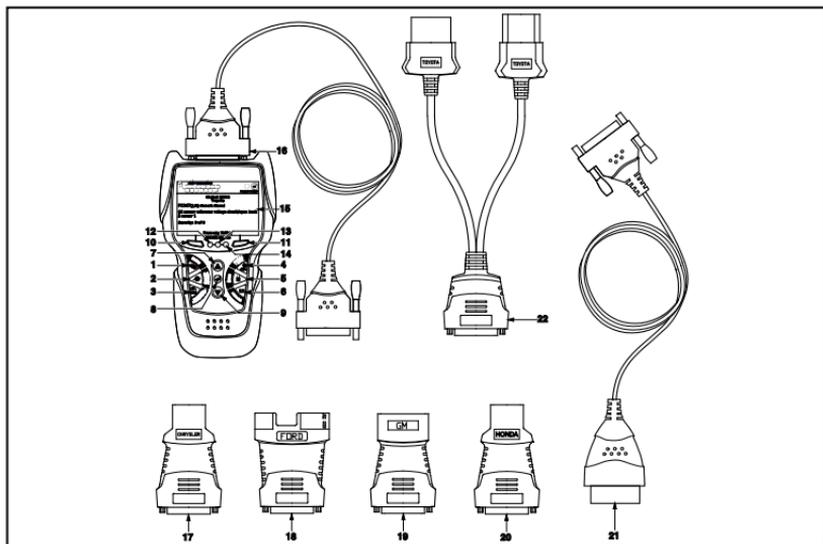

Figure 1. Controls and Indicators
See Figure 1 for the locations of items 1 through 22, below.